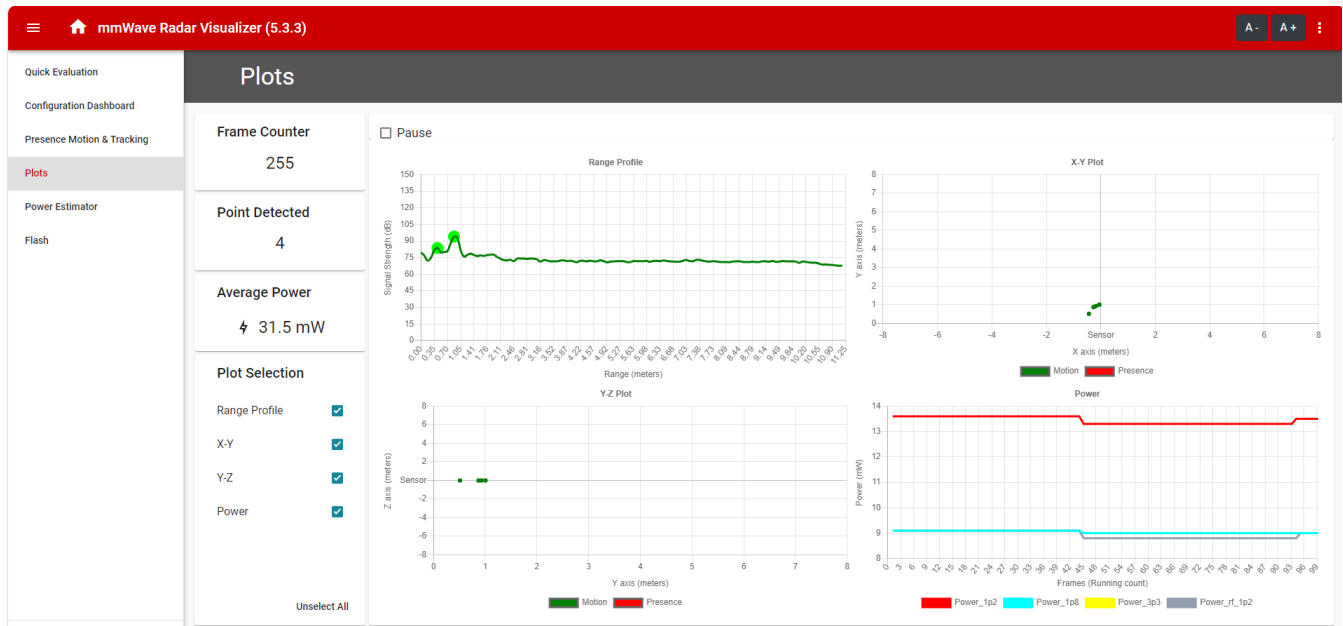

Figure 3-4. Plots Tab in Visualizer Tool
5. After configurations are successfully sent, the *Plots* tab displays range plot via radar point cloud information. Similar to that shown in Figure 3-4.